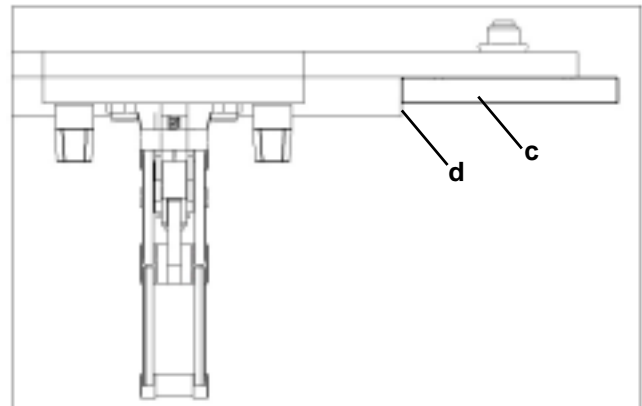

Figure 9
4. Attach the hole-boring template to the cabinet side work-piece making sure the clamp-blocks **(a)** are tight against the front edge of the work-piece **(b)** and that the stop-block **(c)** is tight against the bottom edge **(d)** of the work-piece as shown in Figures 9, 10 & 11. Secure the hole-boring template in place with the toggle clamps.